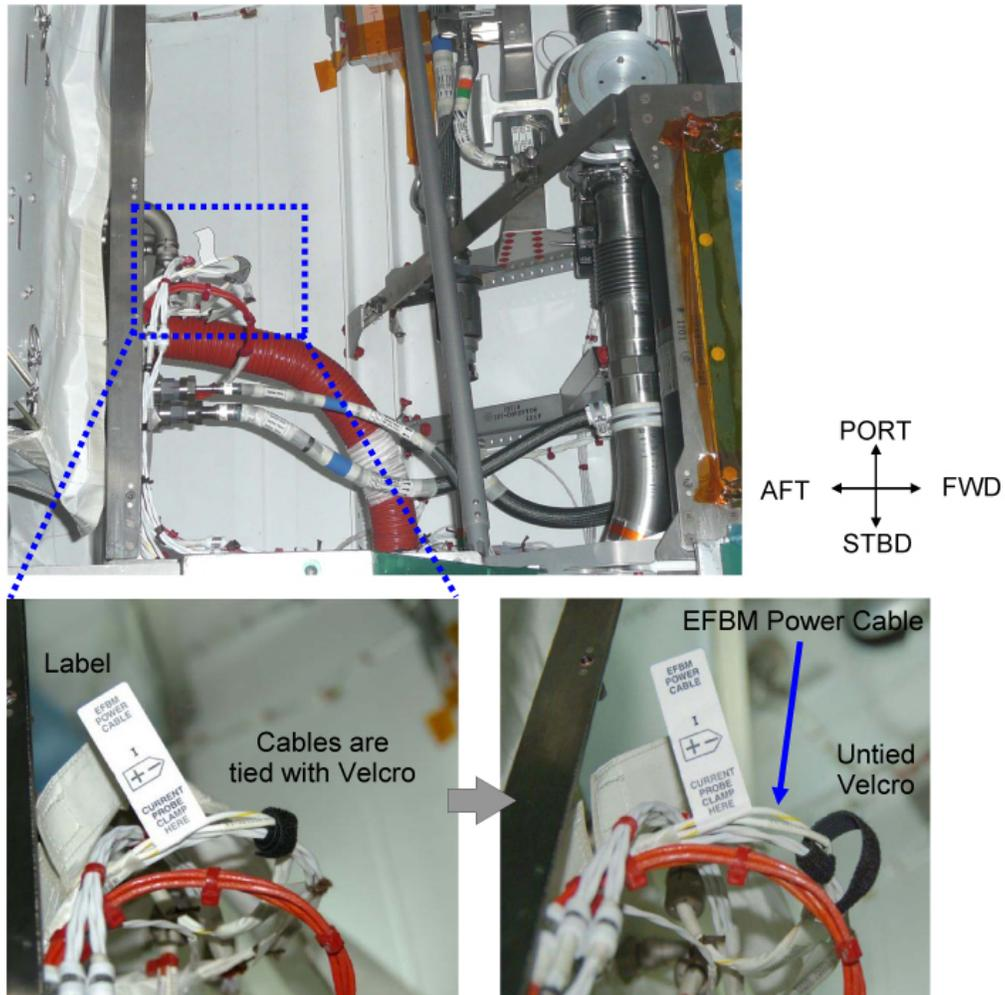

Figure 2. EFBM Power Cable Location (with Velcro).
- 1.2 Untie Velcro from cables. Refer to Figure 2.